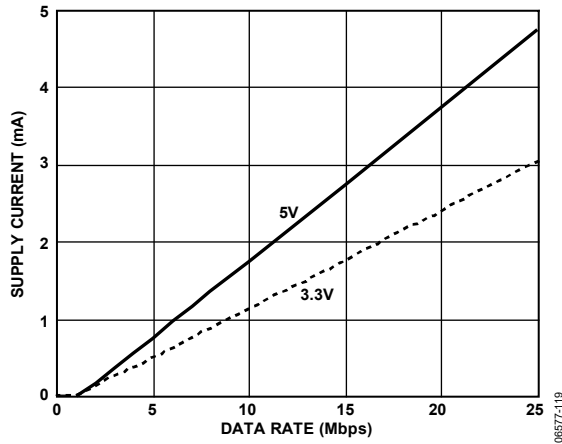
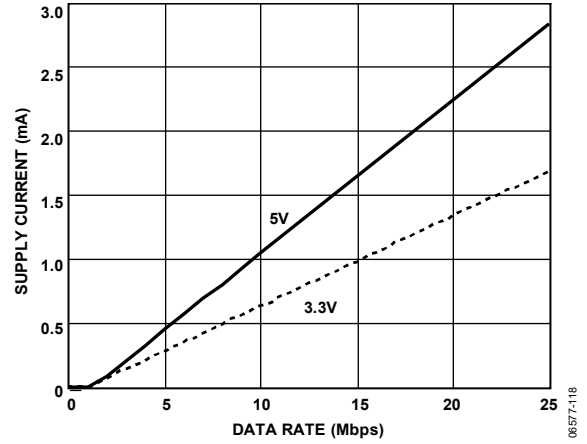

Figure 23. Typical I_{ISO(D)} Dynamic Supply Current per Input
Figure 24. Typical I_{ISO(D)} Dynamic Supply Current per Output (15 pF Output Load)
$I_{ISO (D)n}$ is the dynamic load current drawn from V_{ISO} by an input or output channel, as shown in Figure 23 and Figure 24.